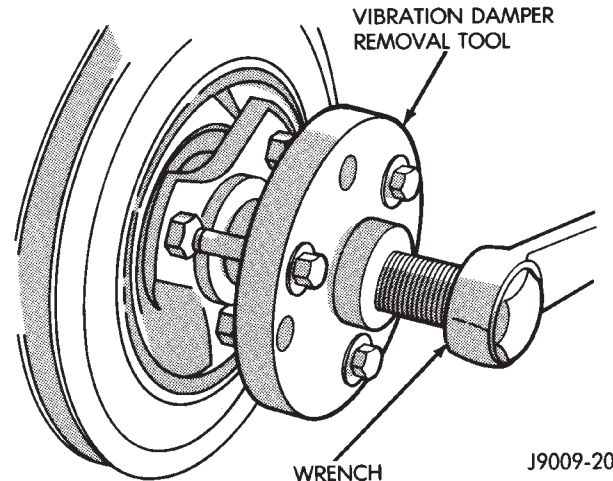

Fig. 39 Vibration Damper Removal Tool 7697
- (1) Disconnect negative cable from battery.
- (2) Remove the serpentine drive belt and fan shroud.
- (3) Remove the vibration damper retaining bolt and washer.
- (4) Use Vibration Damper Removal Tool 7697 to remove the damper from the crankshaft (Fig. 39).